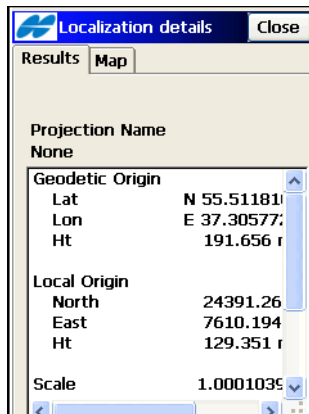

Figure 8-3. Localization Details
6. The *Localization details* screen displays (Figure 8-3 on page 8-5).
The new coordinate system will be saved under the name “Localization” and is automatically selected when the **Close** button is tapped (Figure 8-3 on page 8-5), if one or more localization points are specified. On the Map, the localization points will be marked by blue triangles.